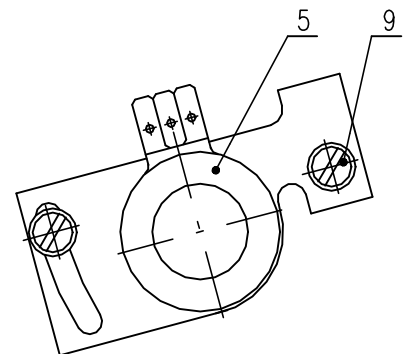

Fig.5
4.3 Adjustment of resistant transmitter (Fig. 5)